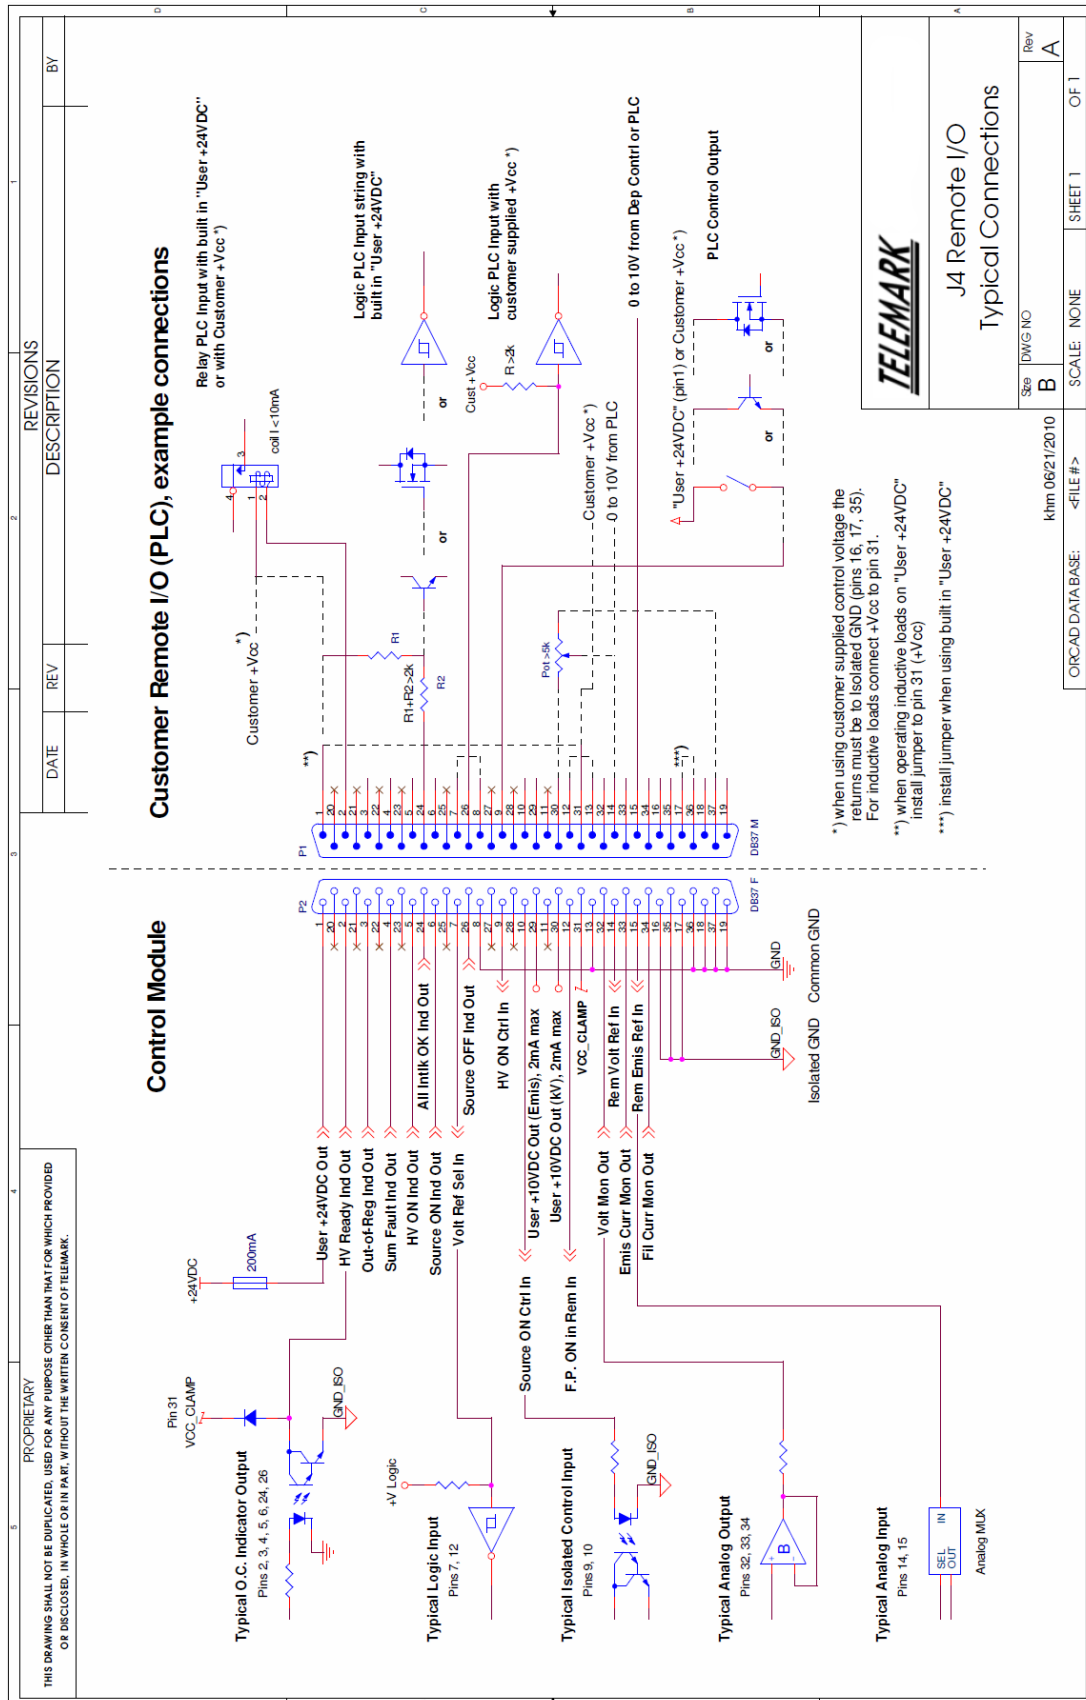

Figure 9-4, J4 Remote User I/O Connector
- Figure 9-4 J4 Typical Remote User I/O Connections